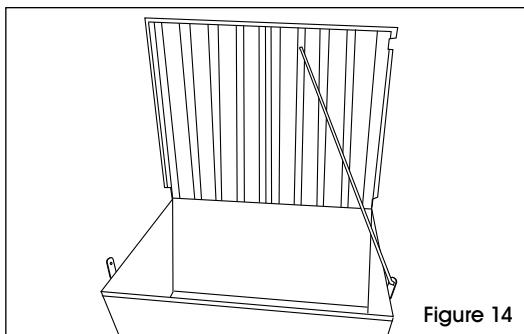

Figure 14
17. Lock bars can also be used as a lid prop by inserting the stop pin into the lock bar bracket hole. (See Figure 14)